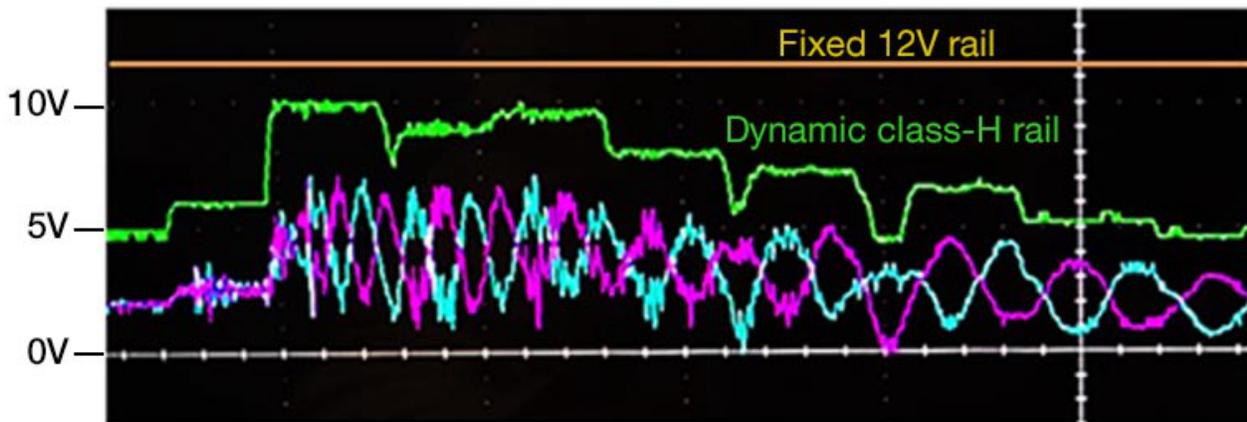

Figure 3. External Class-H hybrid-pro boost control
- **Hybrid-pro external Class-H boost control.** For systems with higher output needs, like large *Bluetooth*® speakers and smart speakers, TI's hybrid-pro external Class-H control algorithm continuously analyzes the audio signal and provides feedback to an external DC/DC converter to increase the voltage for the amplifier when necessary. This lowers the voltage when playing at lower volumes or when a lower output is required. Figure 3 shows this dynamic process in action, showing the changing voltage as the audio signal fluctuates. Compared to a typical amplifier, hybrid-pro mode can increase battery life by over 20%. Learn more in the technical article, "How audio amplifiers with integrated DSPs are increasing efficiency."